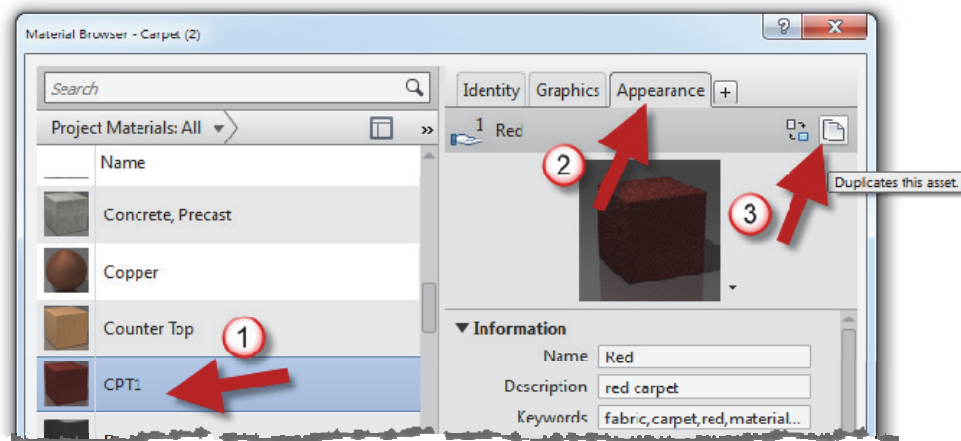

FIGURE 4-3.9A Duplicating an appearance asset
Notice, on the *Appearance* tab (Figure 4-3.9A), that a PNG raster image is assigned to this material. You will download an image from the carpet manufacturer's website and then edit your *Material* to use this new image. Keep in mind that anyone who might work on the project needs access to the image file location. So, in an office environment, you would not want to save this file to your local hard drive.
18. Back in Revit, on the *Appearance* tab, click the **Duplicate this asset** icon (Figure. 4-3.9a).